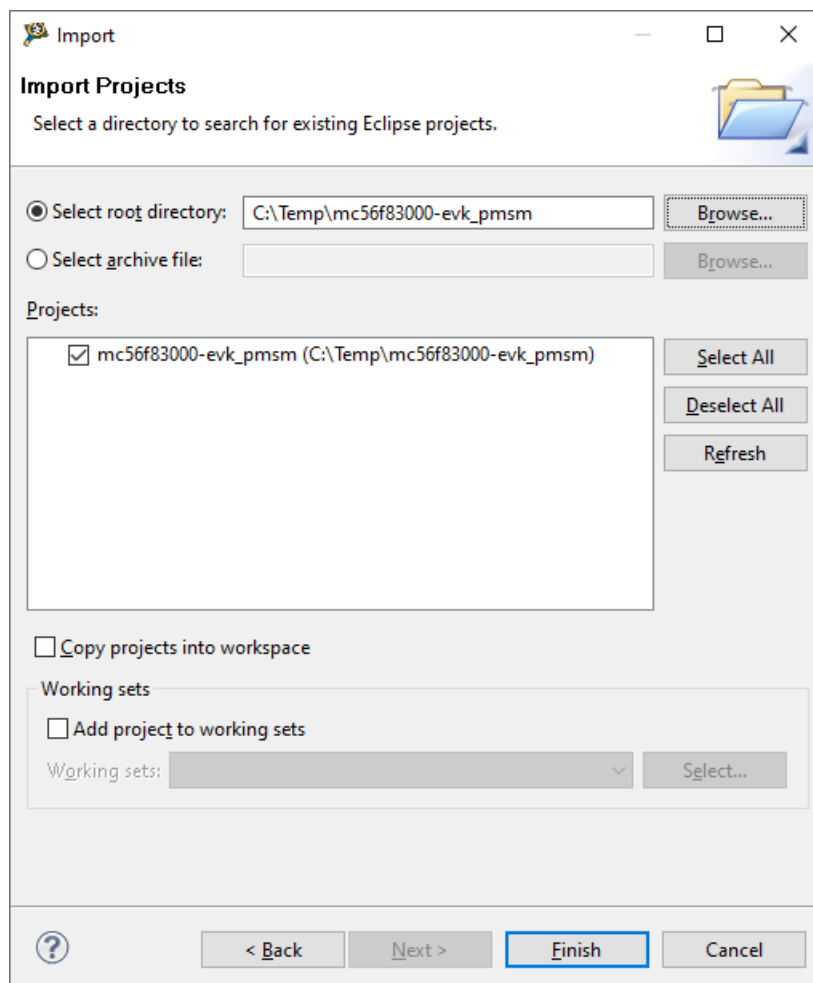

Figure 11. Importing project in CW—fourth step
- Confirm the selection by clicking “Finish”, as shown in Figure 11: